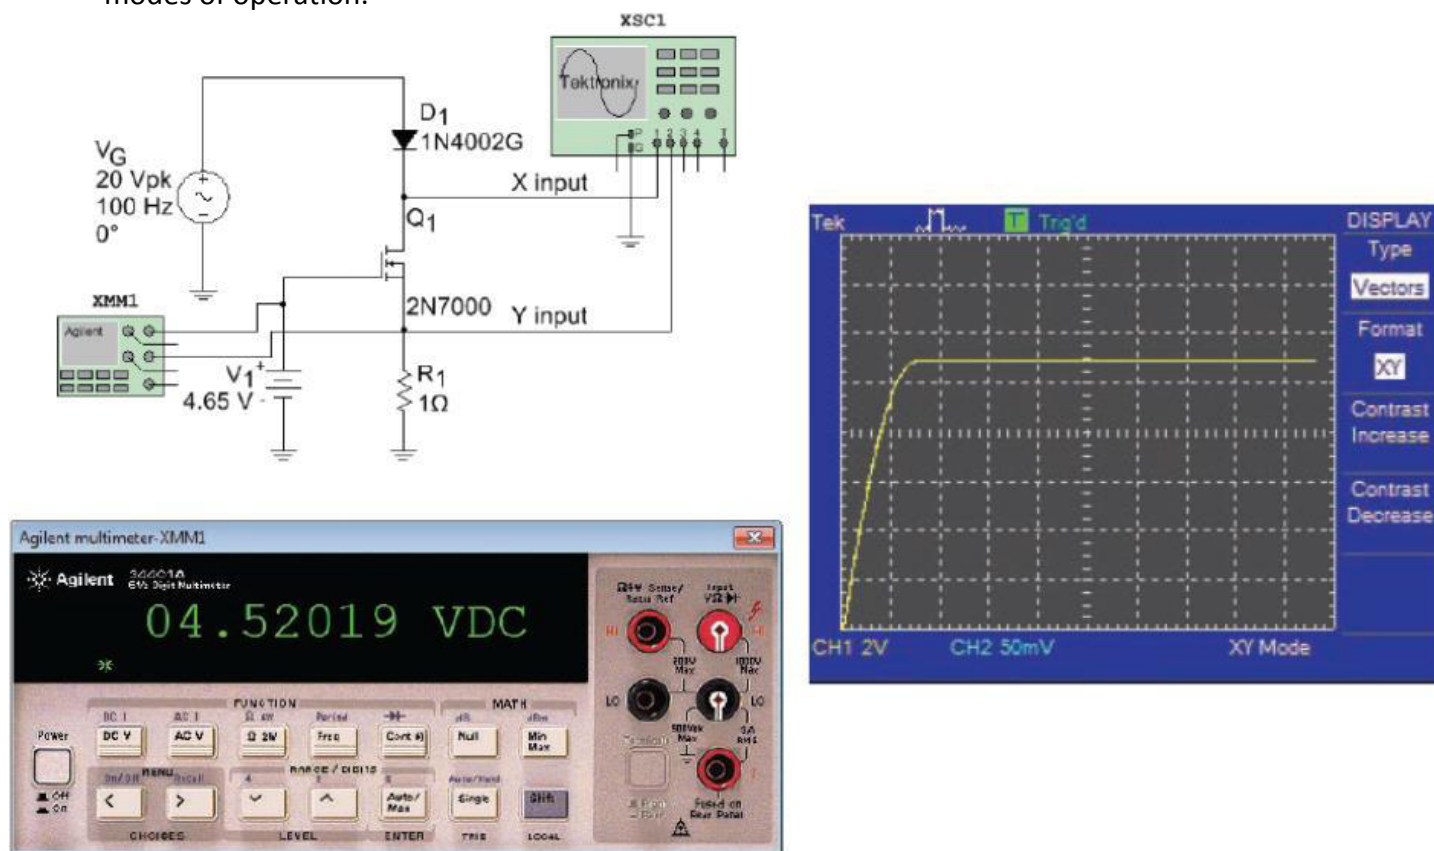

Figure-35 MOSFET testing
- The transconductance value will vary, depending on the circuit's Q point, following the relationship of $I_D = k[V_{GS} - V_{GS(th)}]^2$ and $g_m = \frac{\Delta I_D}{\Delta V_{GS}} \text{ ----- (28)}$
- If a curve tracer is not available, special test circuits can be constructed. Figure-35 shows a circuit capable of testing both depletion-mode and enhancement-mode MOSFETs. By changing the voltage level and polarity of V_1 , the device can be tested in either depletion or enhancement modes of operation.
- The drain curve shown in Figure-35 shows the approximate drain current of 275 mA when, $V_{GS} = 4.52$ V. The y-axis is set to display 50 mA/div.